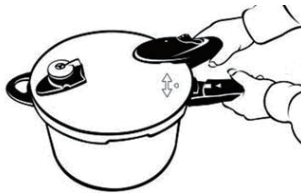

Figure 5
- (1) Place the lid on the cooker body. Align the “O” mark on the lid with the “△” mark on the body handle. See Figure 5.